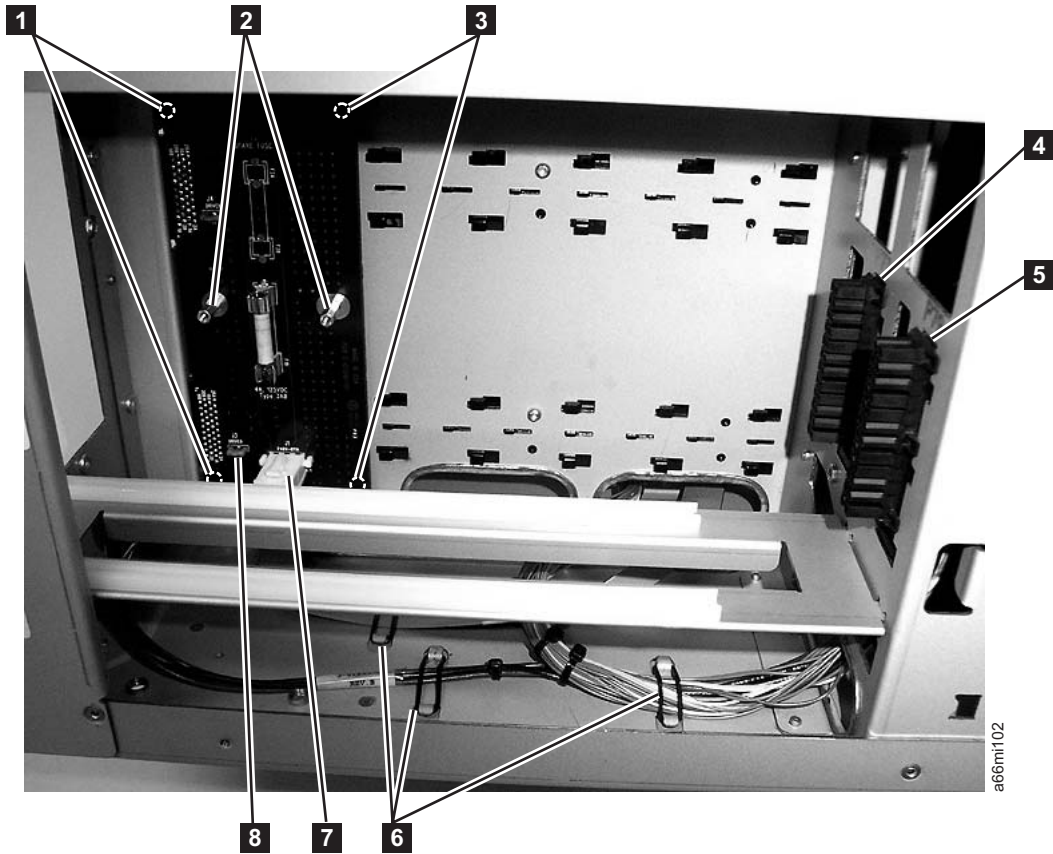

Figure 7-13. Drive Sled Interface Board connectors (side cover removed)
5. Visually check, and reseat if necessary, all of the connectors on the Drive Sled Interface Board (DSIB). See **7** and **8** in Figure 7-13.